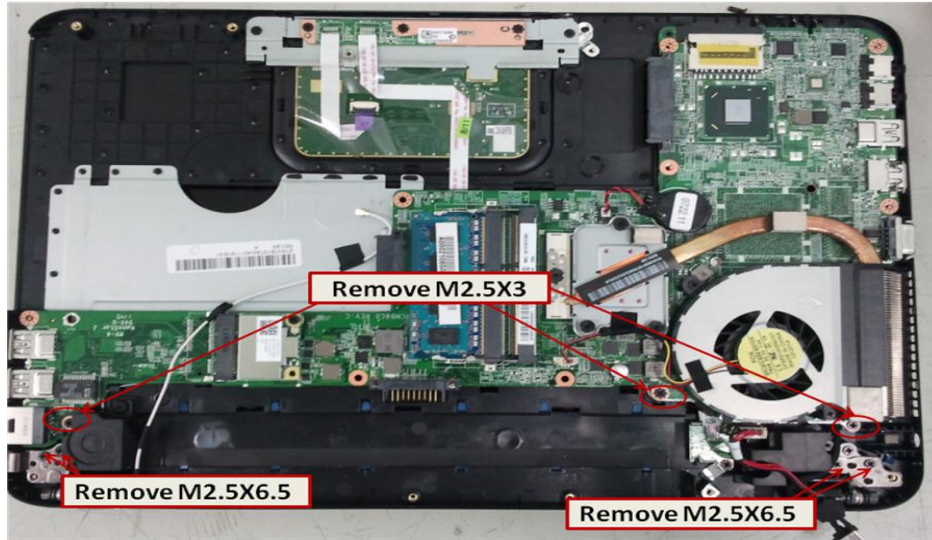

Figure 4-9-4 Remove MB and hinge screws
1. Install the top cover and then install motherboard by securing hinge screws(see figure 4-9-4)